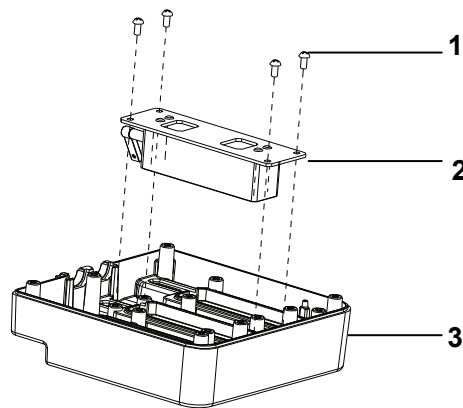

Figure 4-40 Removing transducer bracket
10) As shown in Figure 4-40, remove 4 M3×6 Philips panhead screws, and remove the transducer bracket.